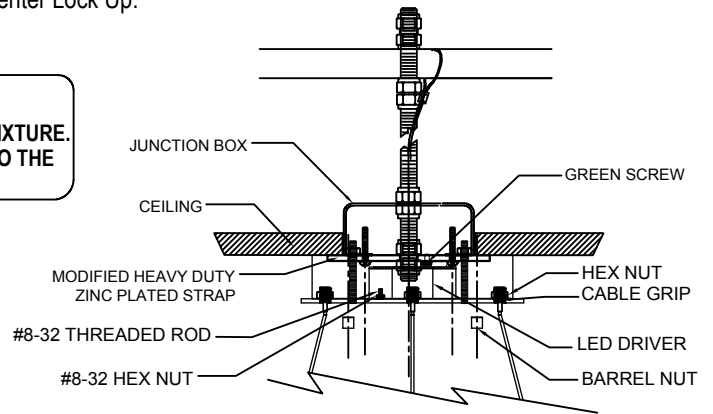

FIGURE-07
- To level the fixture or change the drop height based on your desire height, push the tab down on the grip lock either pull or push the aircraft cable. Repeat this to all aircraft and coaxial cable until the fixture is level and with the desired height. See FIGURE-07.